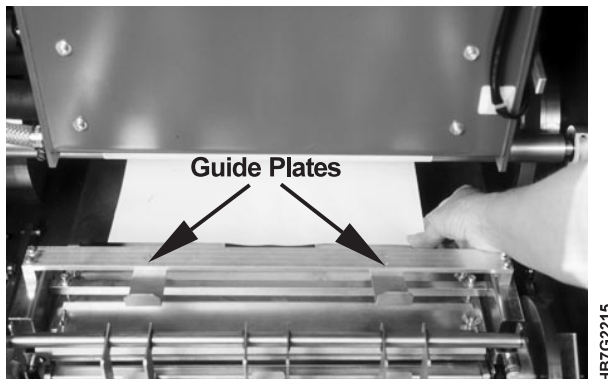

Figure 331. Cutter Assembly Guide Plates
19. Place the paper between the guide plates located at the back of the cutter assembly, as shown in Figure 331.